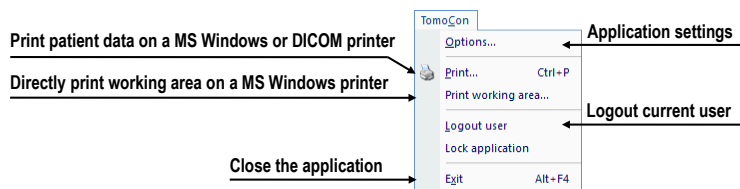

Figure 38 – TomoCon menu
- **TomoCon** – defining the application settings, printing setup (image data printing on a Microsoft Windows printer or DICOM printer), logging into and out of the application and closing TomoCon; see Figure 38.